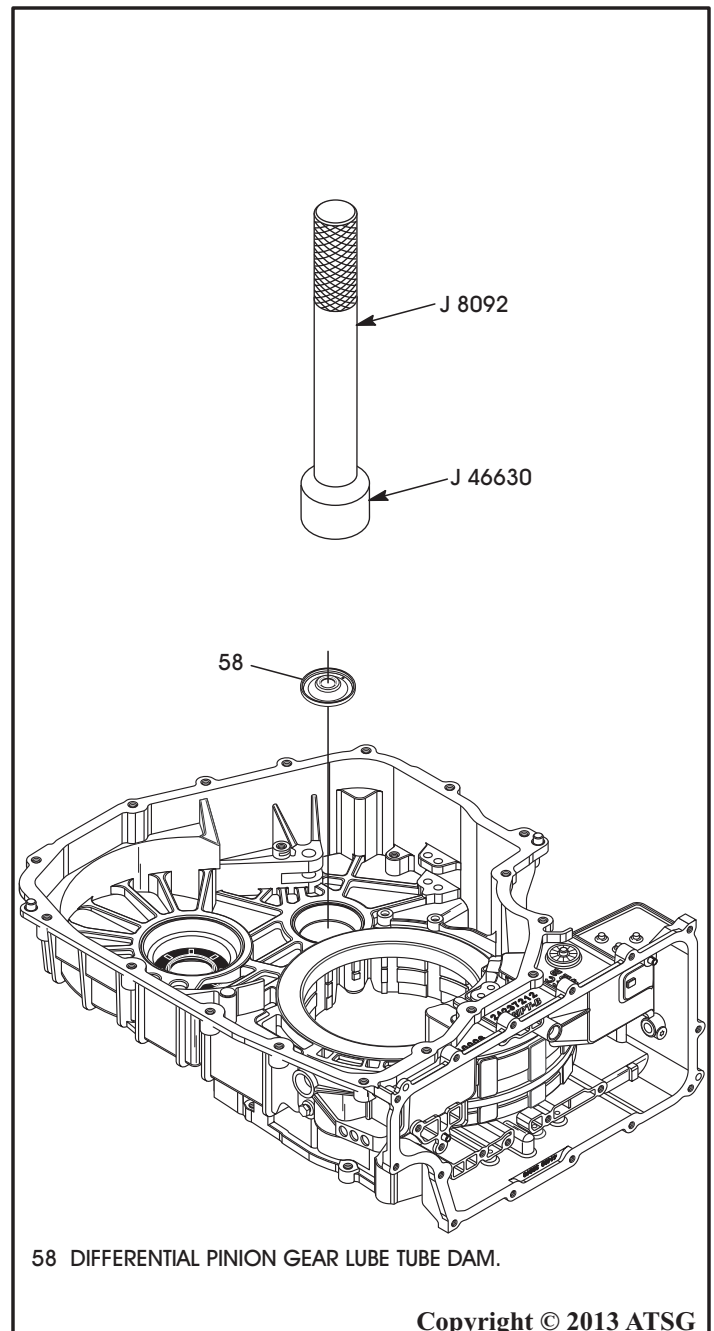

Figure 81
13. Install a new differential pinion gear lube tube dam using the tools shown in Figure 81.